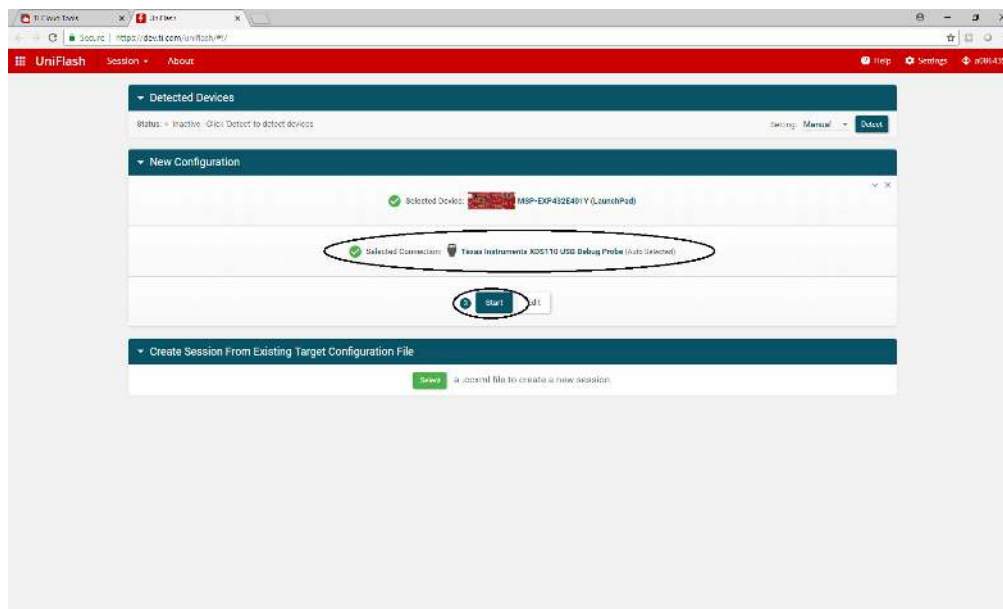

Figure 8. UniFlash: Choose Connection
2. The *Selected Connection* happens automatically to *Texas Instruments XDS110 USB Debug Probe* as seen in Figure 8, then press *Start*.